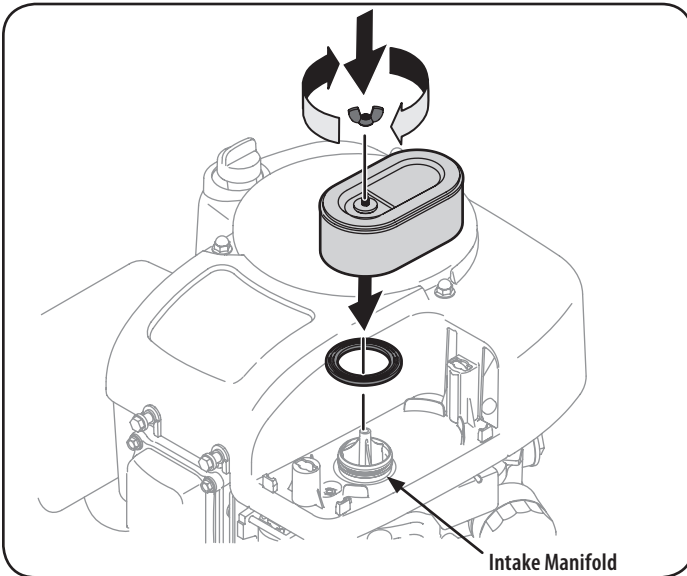

Figure 33
6. Attach the new air filter with foam element, aligning the hole in the air filter with the intake manifold. See Figure 33. Secure with thumb screw.